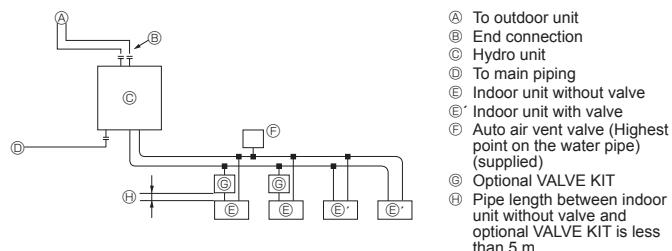

Fig. 4-7
10. Please refer to the [Fig. 4-7] when connecting the water supply.